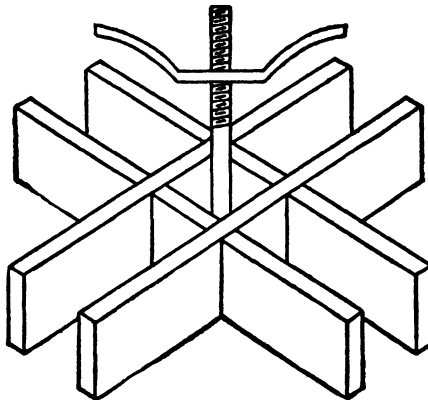

FIG. 68. Rack for fastening down wheel to prevent too much dish.
6. If the wheel is loose in the hub and has too much dish, saw out more of the rim, usually from $1/16''$ to $1/8''$, the amount depending upon how much you think the spokes can be driven into the hub. Place on a wheel rack (Fig. 68) so that the wheel may be screwed down to prevent too much dishing. Screw down until pressure is on the hub and the rim is resting firmly on the frame.